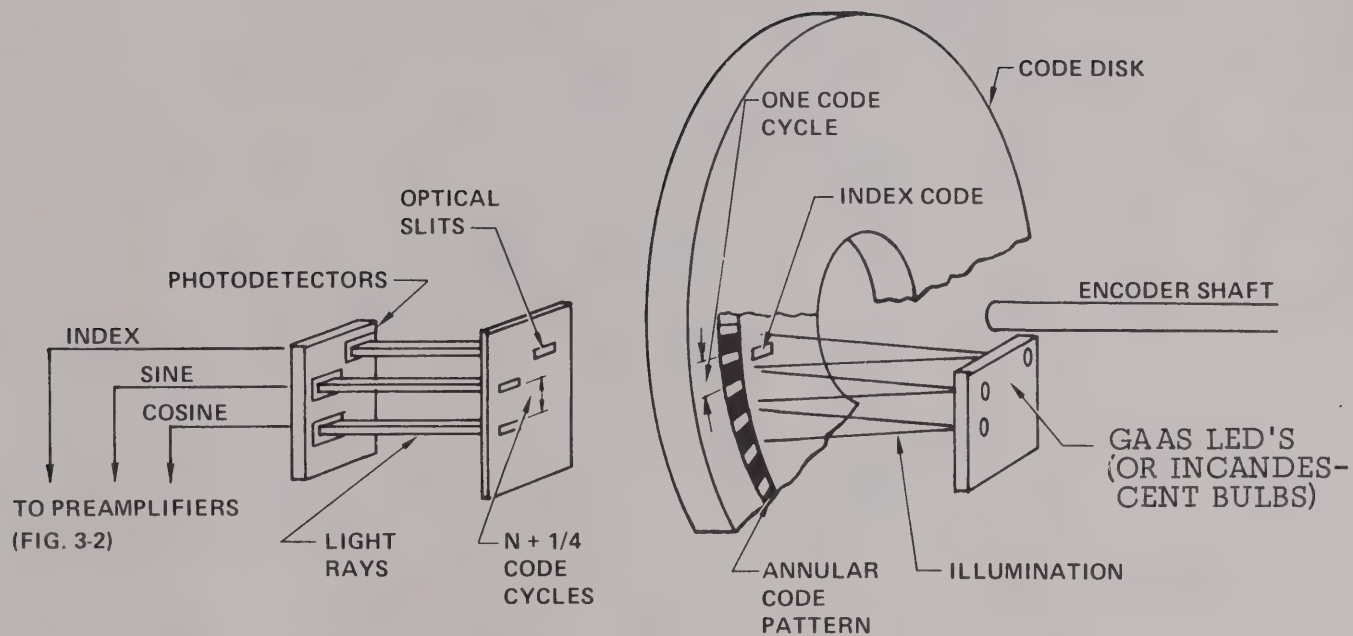

Fig. 3-1 — Rotation detection principle
Fig. 3-1 illustrates the rotation detection principle of DIGISEC rotary incremental encoders. The annular code pattern on the code disk is a continuous series of alternating transparent and opaque segments of equal width. Several precisely registered optical slits are stationed on the opposite side of the code pattern from the illuminating lamps, and photodetectors located directly behind the slits respond only to illumination passing through their respective slits. As the disk rotates, the illumination on a photodetector is modulated by the code pattern, and the detector produces a correspondingly modulated electrical output. By a suitable combination of code disk element shape, readout slit configuration, and photosensing geometry, the electrical output signal is made to be sinusoidal, with a period corresponding to one cycle on the code pattern (one clear and one opaque segment), as shown in Fig. 3-2a. It should be noted that the sinusoidal detector output is a function of angle, not time. The frequency of the detector output (cycles per second) is a function of the angular velocity of the encoder shaft.
Fig. 3-1 shows three slit-detector combinations, providing a sine, cosine, and index output. The sine and cosine detectors both read the annular code pattern and provide sinusoidal outputs, except that the cosine slit-photodetector is located $n + 1/4$ code cycles away from the sine slit and therefore produces a signal which leads the sine signal by 90 degrees (Fig. 3-2b). Combination of the sine and cosine signals through vector addition and logic operations enables a four-fold, eight-fold, or sixteen-fold increase in angular resolution over that possible with the sine signal alone (an encoder quantum resolution of $1/4$, $1/8$, or $1/16$ code cycle is achieved, depending on the particular encoder). For example, a 16-bit (65,536-count) encoder containing a $\times 8$ "multiplier" has a code disk with 8,192 cycles per revolution. The value of the multiplier used in the encoder ($\times 4$, $\times 8$, $\times 16$) indicates the number of clockwise (CW) or counterclockwise (CCW) pulses, or the combined number of transitions of the quadrature (A and B) square waves, per code cycle.